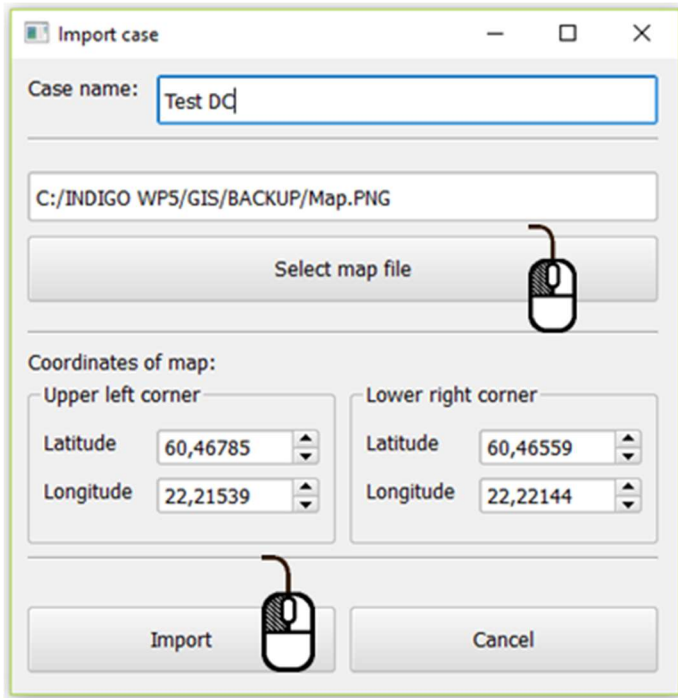

Figure 2. Case import window.
**Create case** button ejects **Import case** window illustrated in Figure 2. Importing model includes following features: